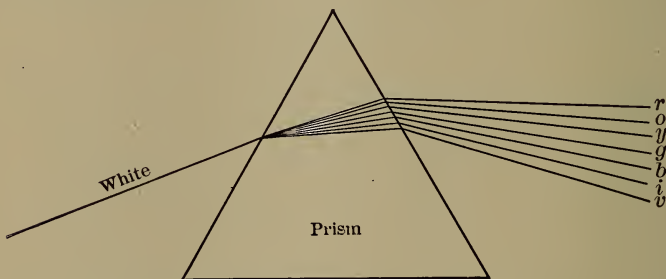

FIGURE 122.—WHITE LIGHT PASSING THROUGH A PRISM.
**155. Dispersion.** — If a ray of white light be passed through a glass prism (Figure 122), it will be refracted and at the same time will be broken up into a band of seven colors, in the order of *violet, indigo, blue, green, yellow, orange,* and *red* (*vibgyor* contains the initials of the colors in the